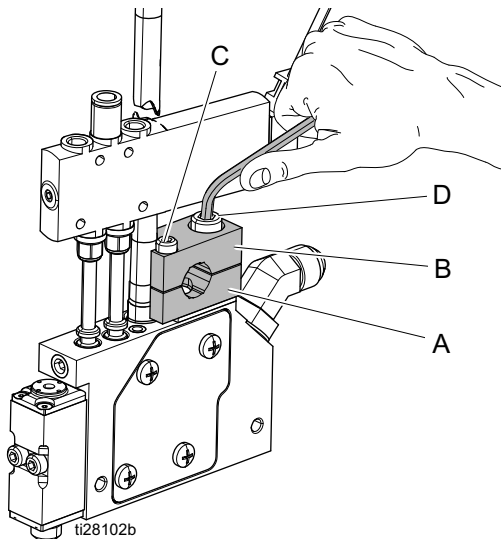

FIG. 3
All Other Models: See **Figure 3** and the following instructions. Mount the manifold on to a 1/2 in. (12 mm) diameter bar using the mounting clamp (H) to hold the applicator in place and ensure adhesive is applied properly. For optimal mounting strength of a slim model, use a 7/16 hex bar.